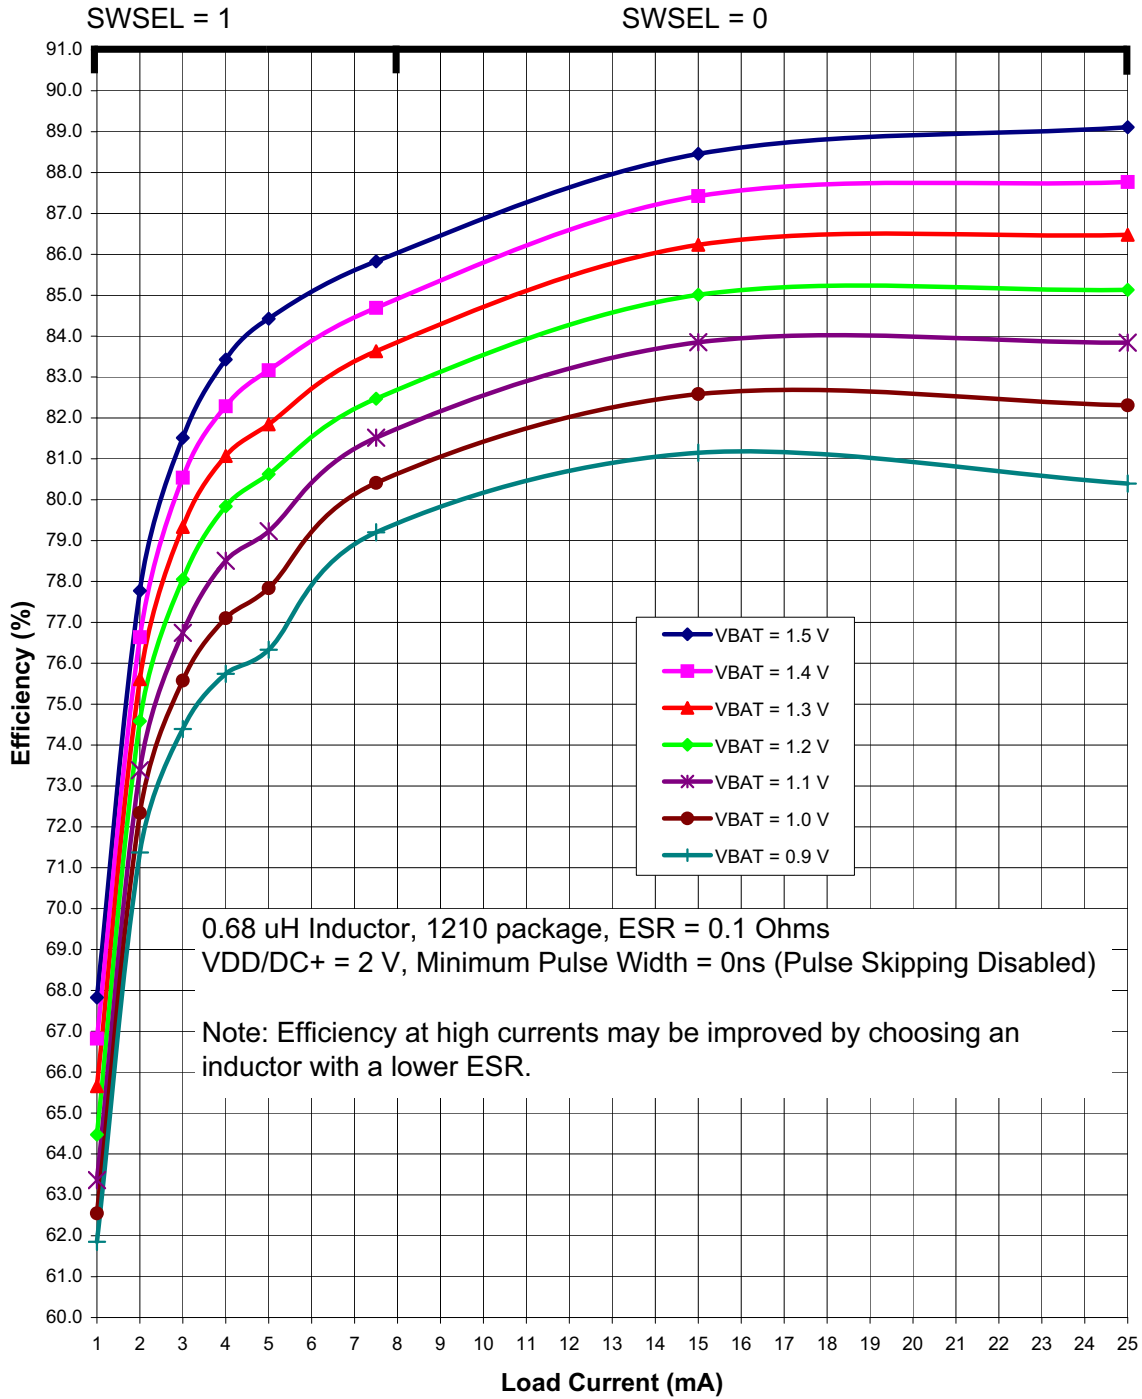
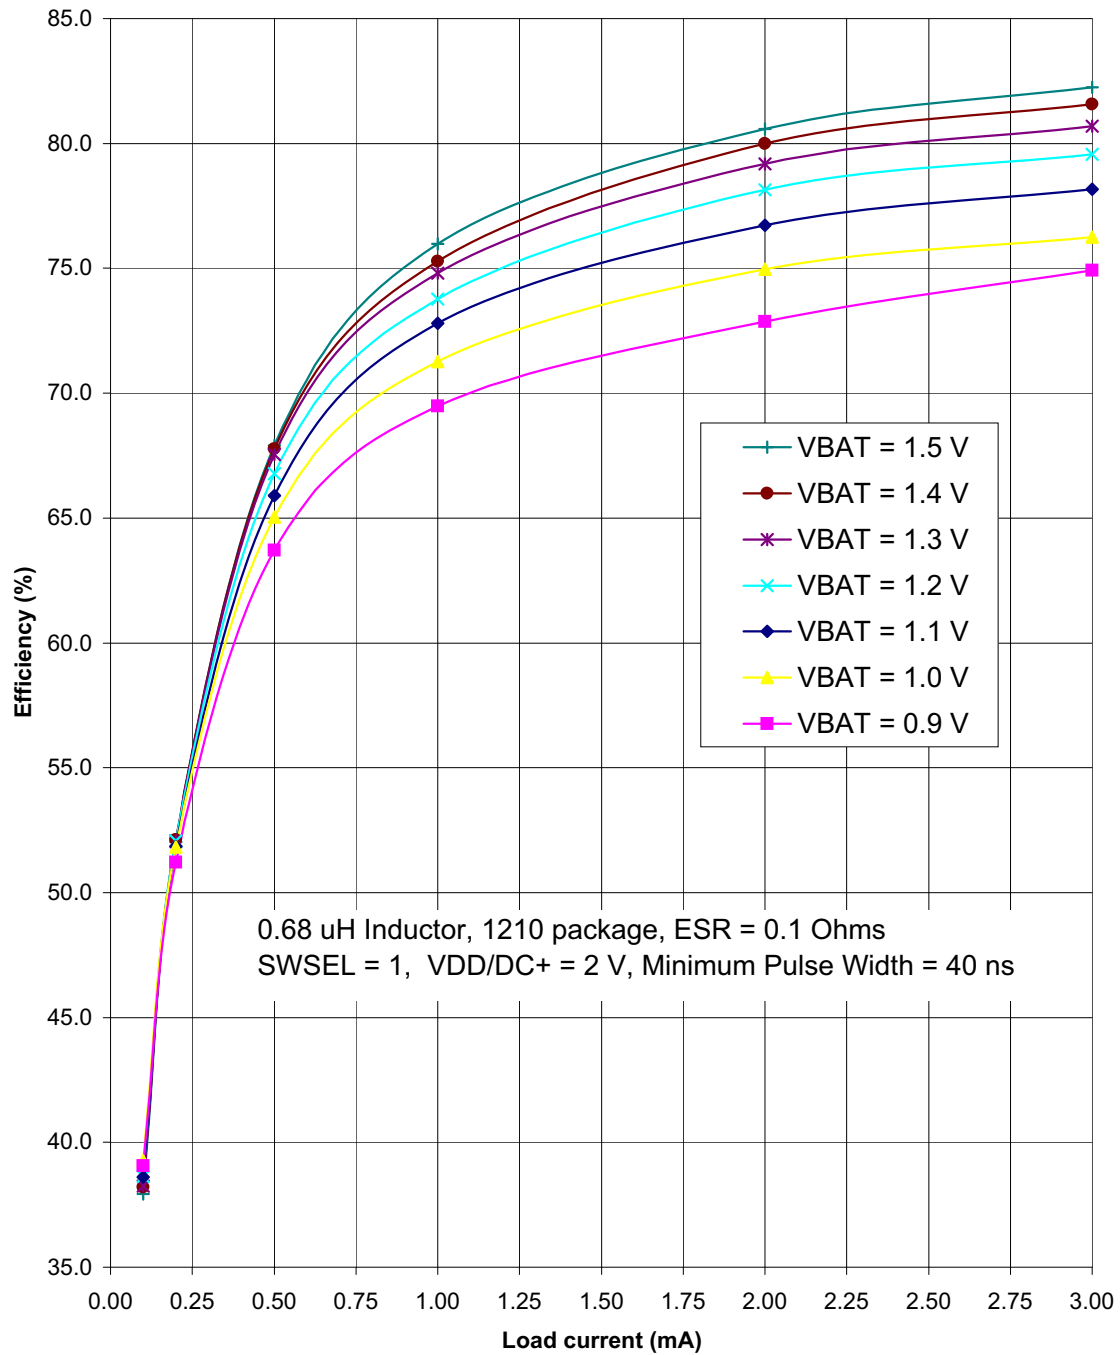

Figure 4.3. Typical DC-DC Converter Efficiency (High Current, VDD/DC+ = 2 V)
Figure 4.5. Typical DC-DC Converter Efficiency (Low Current, VDD/DC+ = 2 V)
| <p>Notes:</p> <ol style="list-style-type: none"> Based on device characterization data; Not production tested. SYSCLK must be at least 32 kHz to enable debugging. Digital Supply Current depends upon the particular code being executed. The values in this table are obtained with the CPU executing an "sjmp \$" loop, which is the compiled form of a while(1) loop in C. One iteration requires 3 CPU clock cycles, and the flash memory is read on each cycle. The supply current will vary slightly based on the physical location of the sjmp instruction and the number of flash address lines that toggle as a result. In the worst case, current can increase by up to 30% if the sjmp loop straddles a 128-byte flash address boundary (e.g., 0x007F to 0x0080). Real-world code with larger loops and longer linear sequences will have few transitions across the 128-byte address boundaries. Includes oscillator and regulator supply current. IDD can be estimated for frequencies ≤ 10 MHz by simply multiplying the frequency of interest by the frequency sensitivity number for that range, then adding an offset of 90 μA. When using these numbers to estimate I_{DD} for >10 MHz, the estimate should be the current at 25 MHz minus the difference in current indicated by the frequency sensitivity number. For example: $V_{DD} = 3.0$ V; $F = 20$ MHz, $I_{DD} = 4.1$ mA – $(25$ MHz – 20 MHz) \times 0.120 mA/MHz = 3.5 mA. The Supply Voltage is the voltage at the VDD_MCU pin, typically 1.8 to 3.6 V (default = 1.9 V). Idle IDD can be estimated by taking the current at 25 MHz minus the difference in current indicated by the frequency sensitivity number. For example: $V_{DD} = 3.0$ V; $F = 5$ MHz, Idle $I_{DD} = 2.5$ mA – $(25$ MHz – 5 MHz) \times 0.095 mA/MHz = 0.6 mA. The supply current specifications in Table 4.2 are for two cell mode. The VBAT current in one-cell mode can be estimated using the following equation: $\text{VBAT Current (one-cell mode)} = \frac{\text{Supply Voltage} \times \text{Supply Current (two-cell mode)}}{\text{DC-DC Converter Efficiency} \times \text{VBAT Voltage}}$ <p>The VBAT Voltage is the voltage at the VBAT pin, typically 0.9 to 1.8 V. The Supply Current (two-cell mode) is the data sheet specification for supply current. The Supply Voltage is the voltage at the VDD/DC+ pin, typically 1.8 to 3.3 V (default = 1.9 V). The DC-DC Converter Efficiency can be estimated using Figure 4.3–Figure 4.5.</p> The radio peripheral is placed in Shutdown mode. | | | | | |